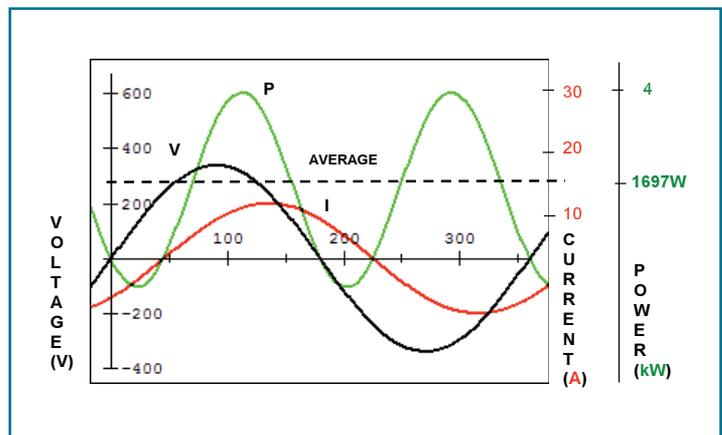
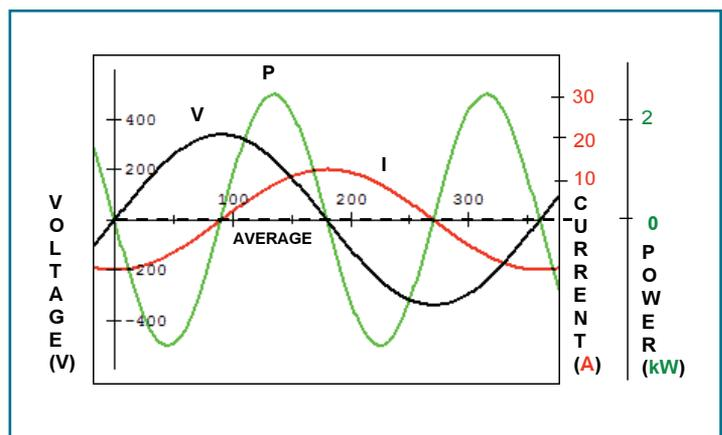

Figure 4: Current lagging the voltage by 45°
Figure 5: Current lagging the voltage by 90° and average power delivered to the load is 0W
The term is also known as the Power Factor (PF) and is very important in AC circuits. For example, if the current lags the voltage by 45° as shown in **Figure 4**, then the real average power dissipated by the load will be $2400 \times 0.7 = 1697\text{W}$. Similarly, as shown in **Figure 5**, if the phase difference between the voltage and current is 90° then $\cos 90^\circ = 0$ and the average power delivered to the load will be zero. In other words, even though there is 240V across the load and 10A current flows through the load, no real power is delivered to the load. It is very important to make sure that the PF is as close to unity as possible in AC power circuits such as in large electric motor circuits.